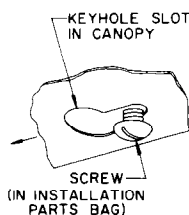

FIG. 2
6. Remove the hood and start all four screws in the center of the narrow neck of the keyhole slot marked on the cabinet bottom (See Figure 2).
9. Tighten the four mounting screws to secure the hood to the cabinet. Be sure the screw heads are in the narrow neck of the keyhole slot (Figure 2).